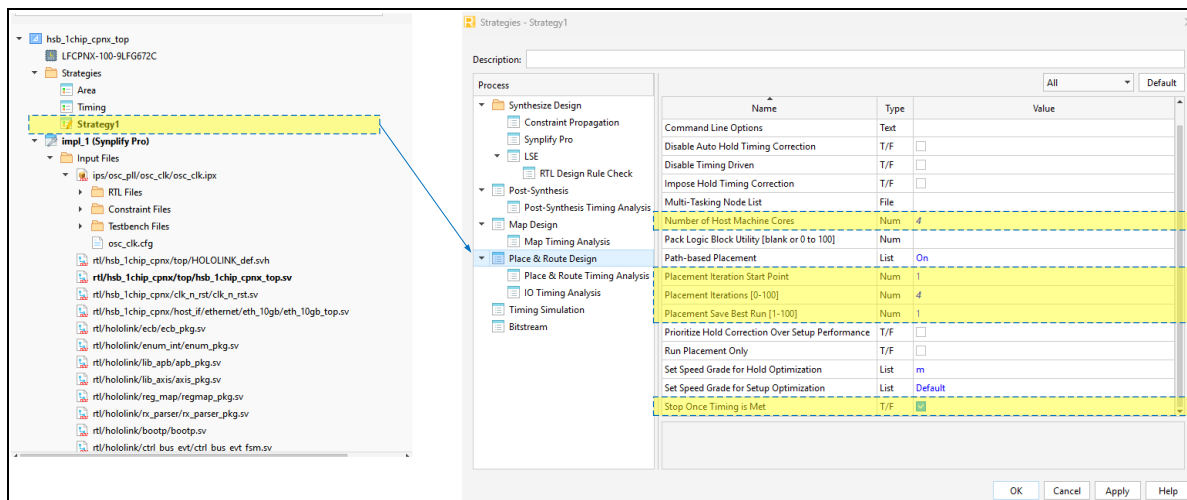

Figure 5.5. Place and Route Design Strategy
3. Modify the Place and Route design strategy details under **Strategy1 > Place & Route Design**. Refer to Figure 5.5. The seed run count has been increased to 4 for this reference design, allowing you to select the reference design with the best place-and-route result and the best STA report. Specify multiple seeds for placement and routing during implementation¹.